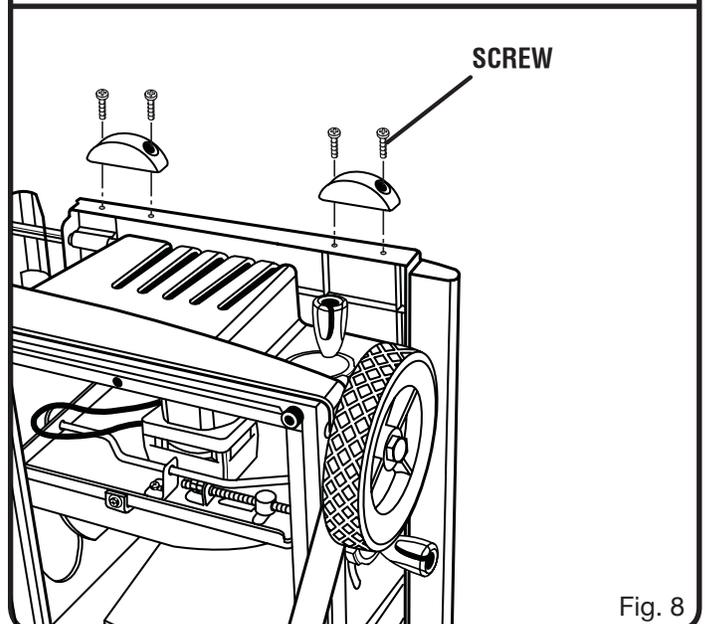

Fig. 8
See Figure 8.
- Place saw table on end as shown in figure 8.